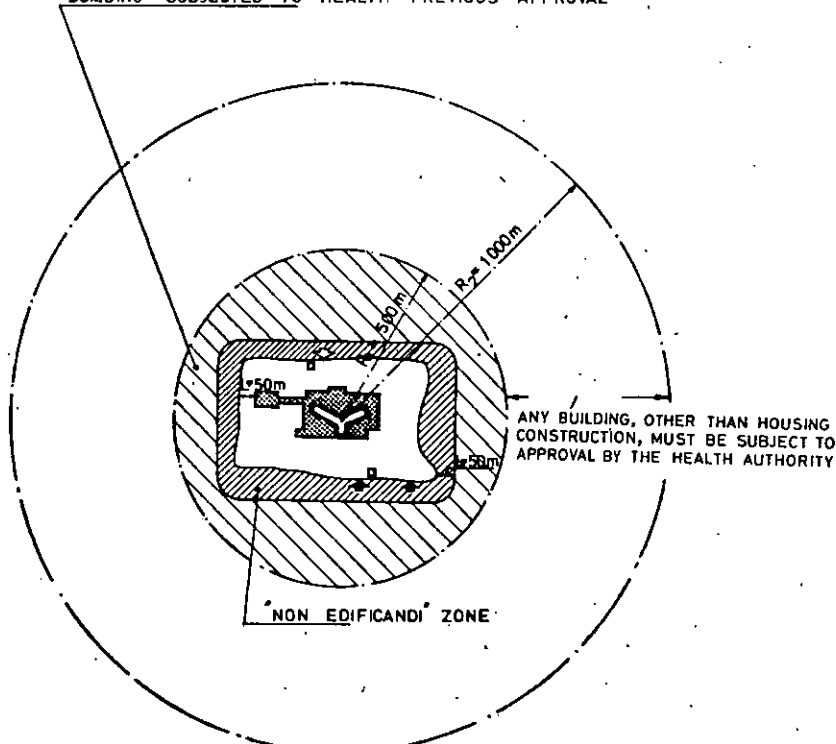

Fig. 7 Hospital zones of a site in a nonurbanisation area
- Hospital sites in a nonurbanisation area: in this case (Fig. 7), further to what is proposed in (c), another zone must be established between circumferences with 500 m and 1000 m radius, where no construction must be allowed without a previous approval by the health authority with the exception that the construction is for housing. However, buildings must not be tall enough to produce shadows in the hospital site.